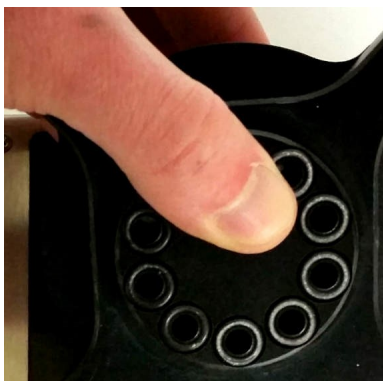

Figure 9: Filter debris
5. Clean any filter residue or debris from mating surfaces using a clean ethanol-soaked wipe (figure 9), taking care to prevent debris from falling into the instrument flow path. This is most easily accomplished by holding the unit or top hat such that any debris that falls, falls away from the optical path. If any debris gets into the instrument, gently blow it out with dry filtered air.